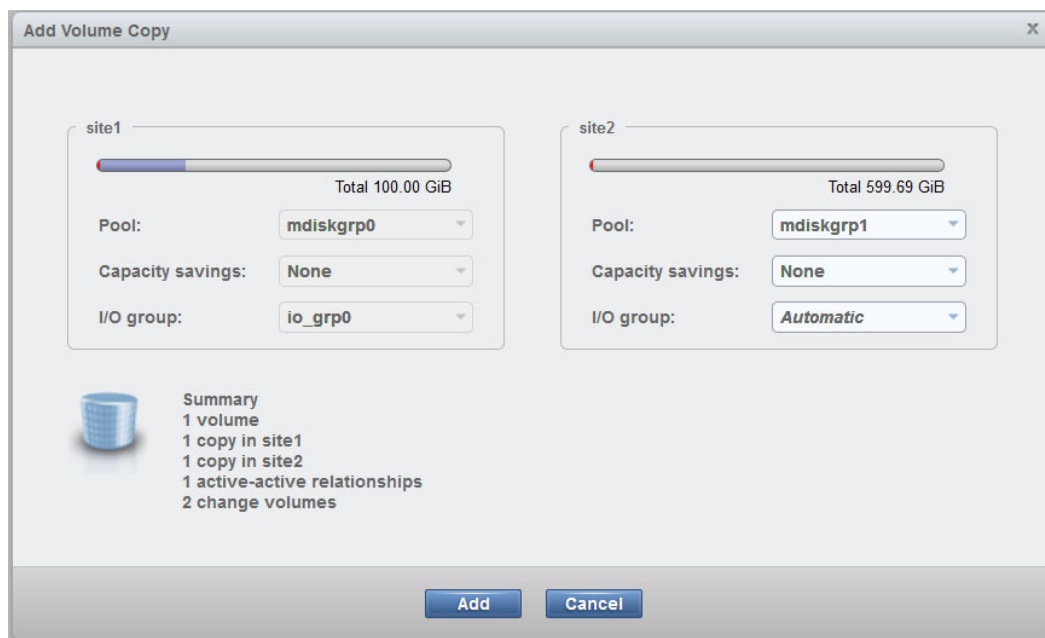

Figure 7-68 Converting a basic volume to a HyperSwap volume
- To change a basic volume to a HyperSwap volume by using the management GUI, click **Volumes**. Right-click the basic volume and select **Add Volume Copy**. Select the pool at the different site that contains the existing copy, as shown in Figure 7-68. Click **Add**.